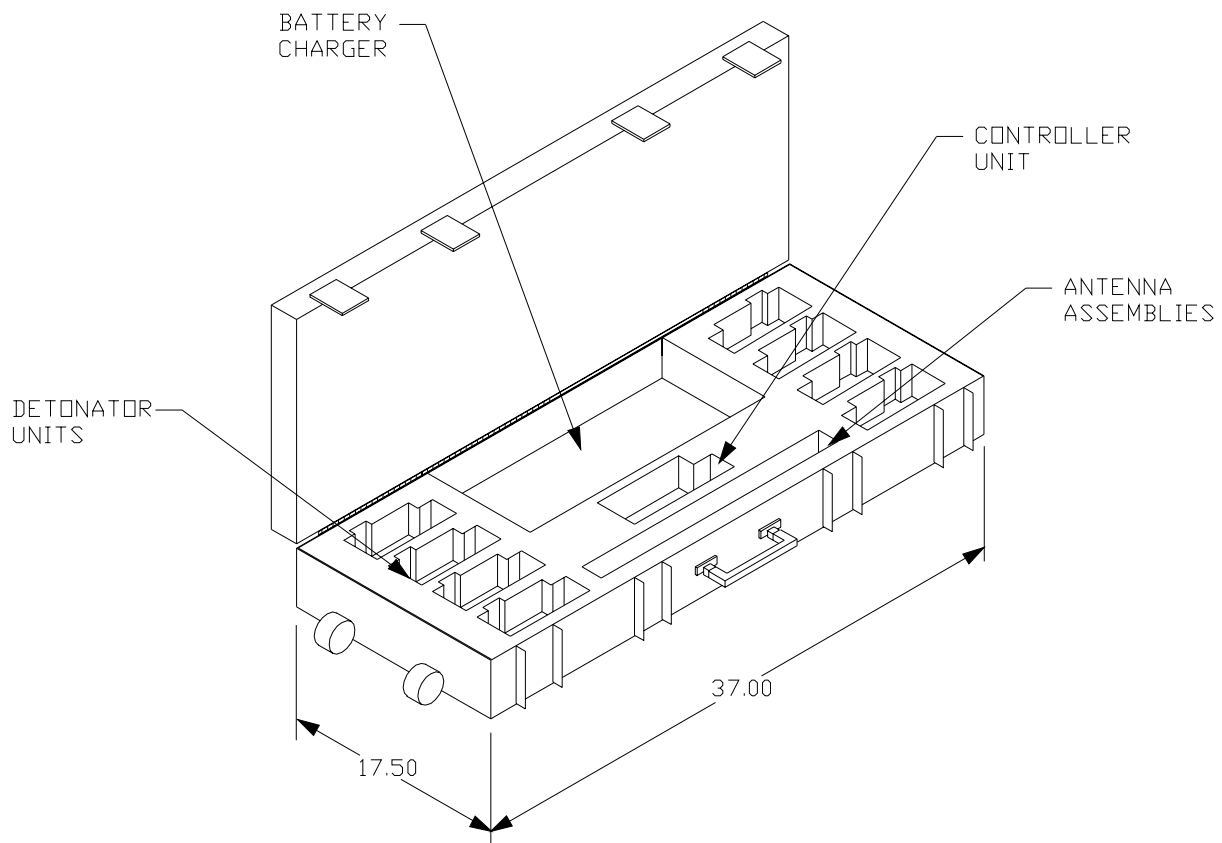

Figure 2-6 Carrying Case.
2.8.1. Figure 2-6. Provides the physical size of the Carrying Case and a view of the storage location for System assemblies in the Carrying Case. The Carrying Case has a pressure equalization vent near the handle. The vent should be opened prior to opening the Carrying Case. The vent should be kept closed during storage and shipment.